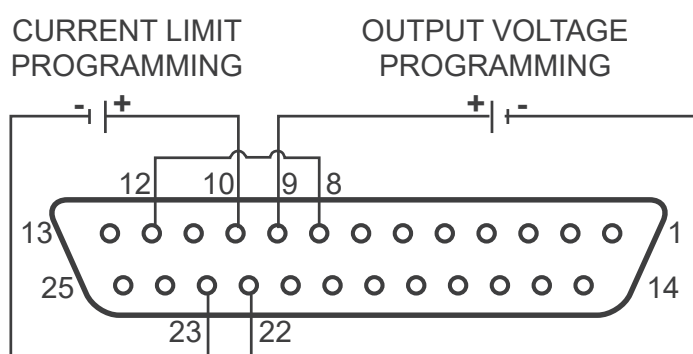

Fig.4-1: Remote voltage programming connection
6. Connect the programming source to the mating plug of J1 as shown in Fig.4-1.